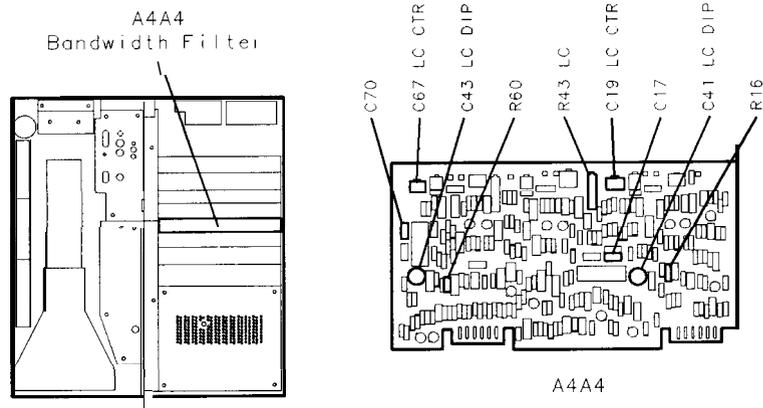

Figure 3-41.
9. Adjust A4A4C67 LC CTR and A4A4C19 LC CTR for maximum MARKER level as indicated by CRT annotation. See Figure 3-41 for location of adjustments. If unable to adjust LC CTR adjustments for satisfactory signal amplitude, increase or decrease value of A4A4C17 and A4A4C70. Refer to Table 3-3 for range of values.
13. Adjust A4A4R43 LC to align markers on display. **MARKER A** level should indicate 1.00 X. See Figure 3-41 for location of adjustment.
53. Adjust A4A4C41 LC DIP for minimum amplitude of signal peak. See Figure 3-41 for location of adjustment. Key in **[PEAK SEARCH] MARKER [Δ]**, and adjust LC DIP again to offset the signal peak approximately -17 kHz (to the left). This is done to compensate for the effect of placing the board on extenders. If unable to achieve a “dip” in signal amplitude, increase or decrease value of A4A4R16. Refer to Table 3-3 for range of values.
55. Adjust A4A4C43 LC DIP for minimum amplitude of signal peak. See Figure 3-41 for location of adjustment. Key in **[PEAK SEARCH] MARKER In]**, and adjust C43 LC DIP again to offset the signal peak approximately -17 kHz (to the left). If unable to achieve a “dip” in signal amplitude, increase or decrease value of A4A4R60. Refer to Table 3-3 for range of values.